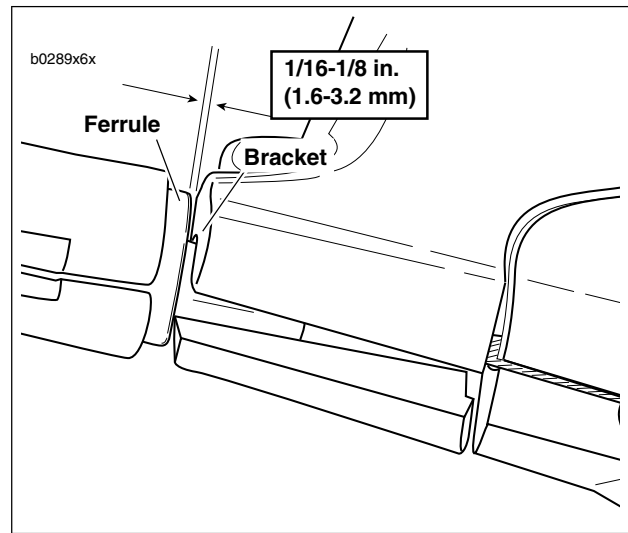

Figure 1-25. Adjusting Clutch Free Play
- a. See Figure 1-25. Pull ferrule (end of cable housing) away from bracket. Gap between ferrule and bracket should be 1/16-1/8 in. (1.6-3.2 mm).